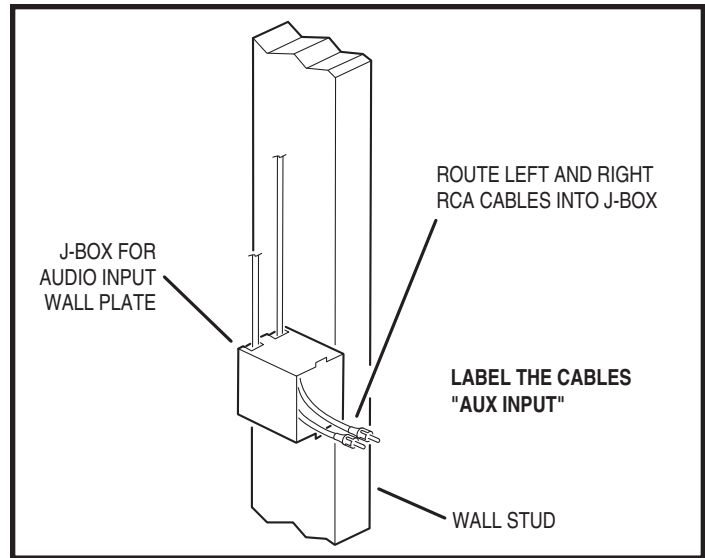

Figure 12. Audio Input Wall Plate Rough-in
2. Route two shielded RCA-to-RCA cables from the J-box to the DMC1 Master Station's wall housing through the top left wiring access hole or slot (see Figure 12). Leave about 12" of extra cable extending at the wall housing end and about 6" of extra cable extending at the J-box end. **LABEL THE CABLES "Aux Input"**.